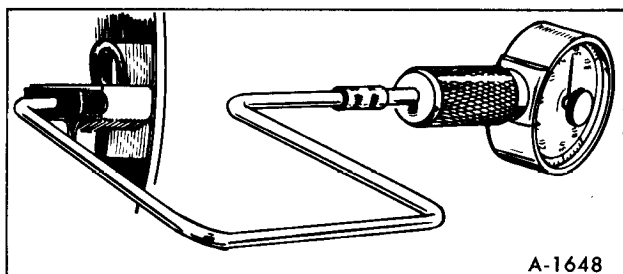

Figure 60—Testing Brush Spring Tension
**BRUSH SPRINGS:** The spring tension should be taken using a push-type spring scale until the top of a new brush protrudes 1/16 inch from the brush holder. Spring tension should be 36 to 48 ounces. See Figure 60.